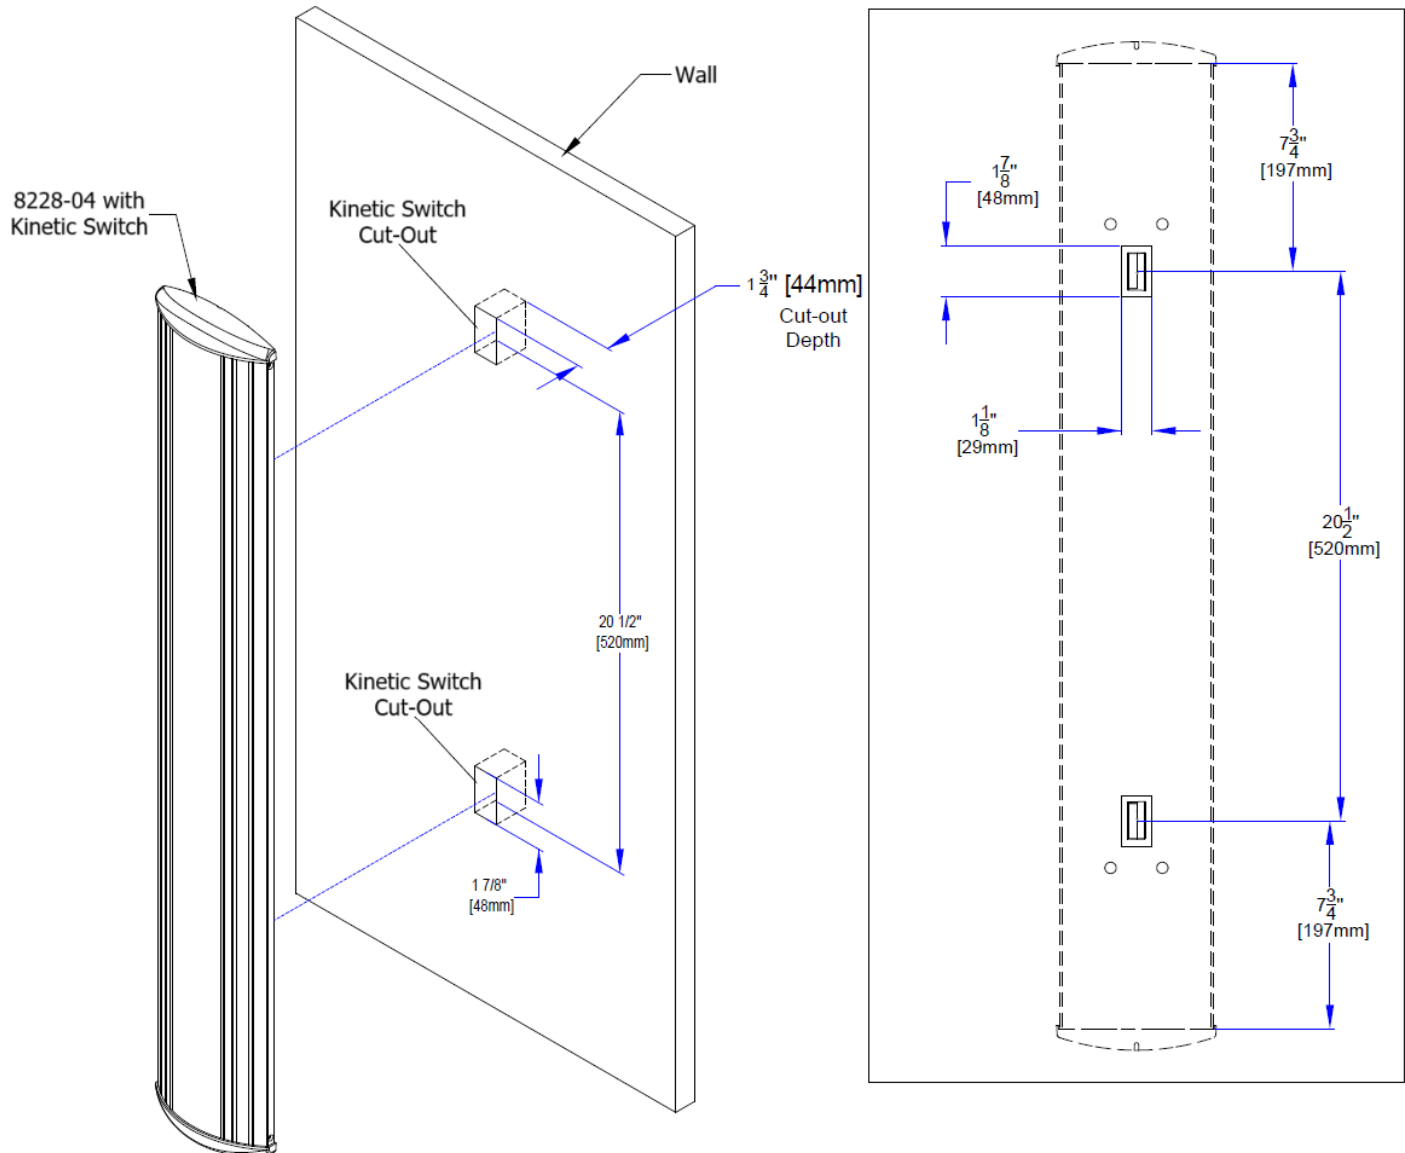

Figure 6: Mounting Diagram for 8228-04 Kinetic Switch
5. **For Kinetic Switches Only.** If mounting directly to a wall or mounting post, additional wall or mounting post prep is required. See Figure 6.